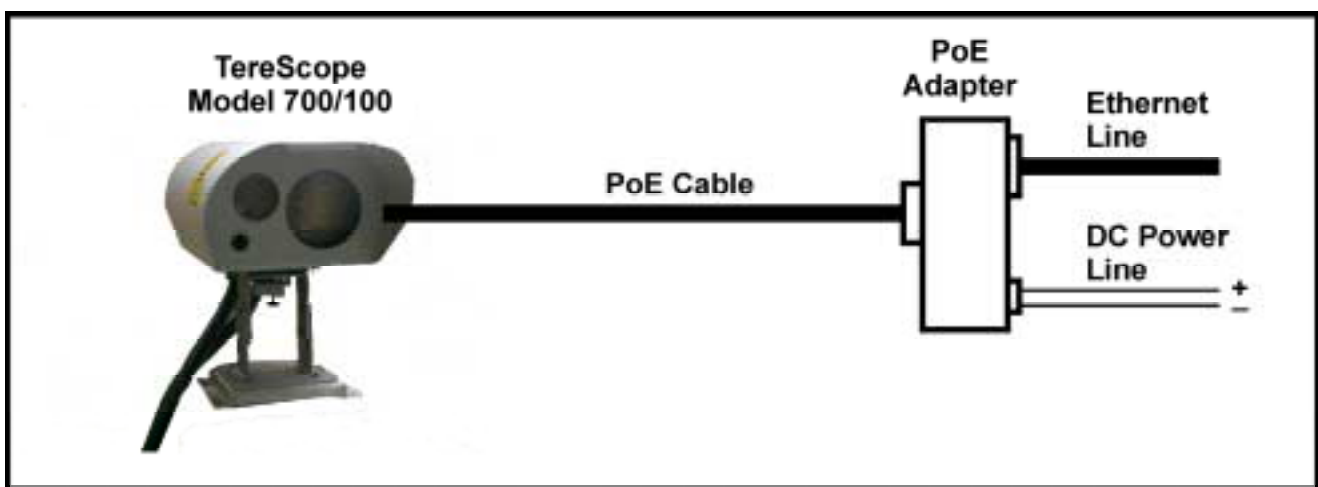

Figure I.1: Power-over-Ethernet Interconnection with external PoE adapter
2. TereScope model 700/100 with PoE option connected to *non-PoE-enabled* equipment through an external PoE adapter. The PoE adapter couples an Ethernet Line and DC Power (usually 48 VDC – see low voltage power requirement in Appendix A: specifications) onto an 8-wire straight (non-cross) Category 5 cable, as shown in Figure I.1. The other end of the PoE cable is connected directly to the TereScope model 700/100 with the PoE option. Adapters to be used with the TereScope are required to meet the IEEE 802.3af standard. Examples of brands of such adapters are: *HyperLink Technologies BT-CAT5-P1*, *PowerDsine 6001*. These two types of adapters are commercially available. This connection is illustrated on Figure I.1.